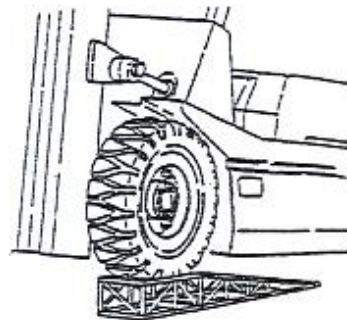

Figure 2-20
- (5) After confirming that the fork is removed from the outer mast, reverse the forklift (② in Figure 2-20).
- (6) Replace the main roller